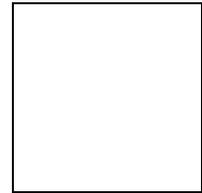

Figure 12
- Your Oliver lathe is equipped with a safety shield. Install the mounting post of the shield, in the direction shown by the arrow in Figure 12, into the comparator/guard bracket and lock into place with the lock handle. Loosen the lock handle to adjust the guard position as necessary and then re-tighten.